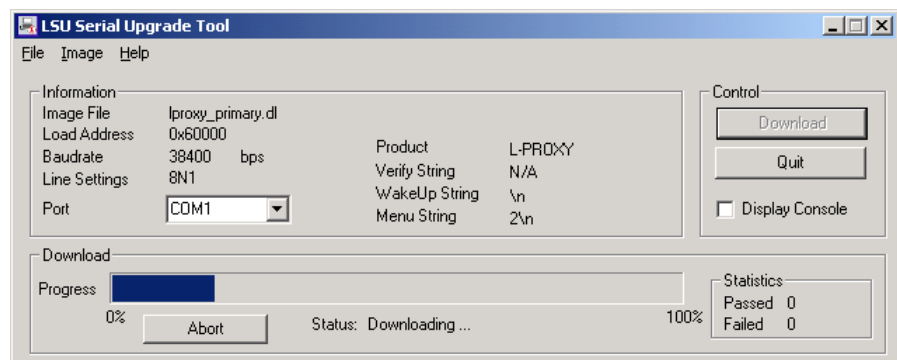

Figure 130: Progress Bar during Firmware Download.
2. If the L-Gate is not connected to COM1 you can change the port to COM2, COM3, or COM4. Make sure that the product shown under “Product” matches the device you are upgrading. Press “Download” to start the download. A progress bar as shown in Figure 130 can be seen.